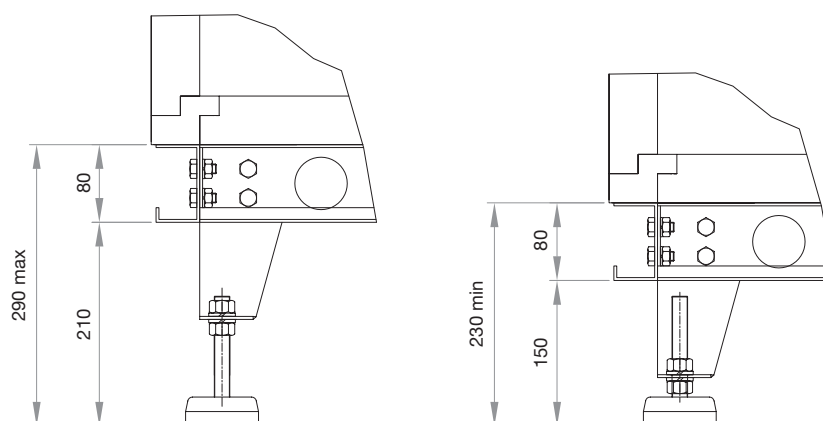

Figure 11
- Unit with support base frame – size CompAir 6000 to 10000 (Fig.11)